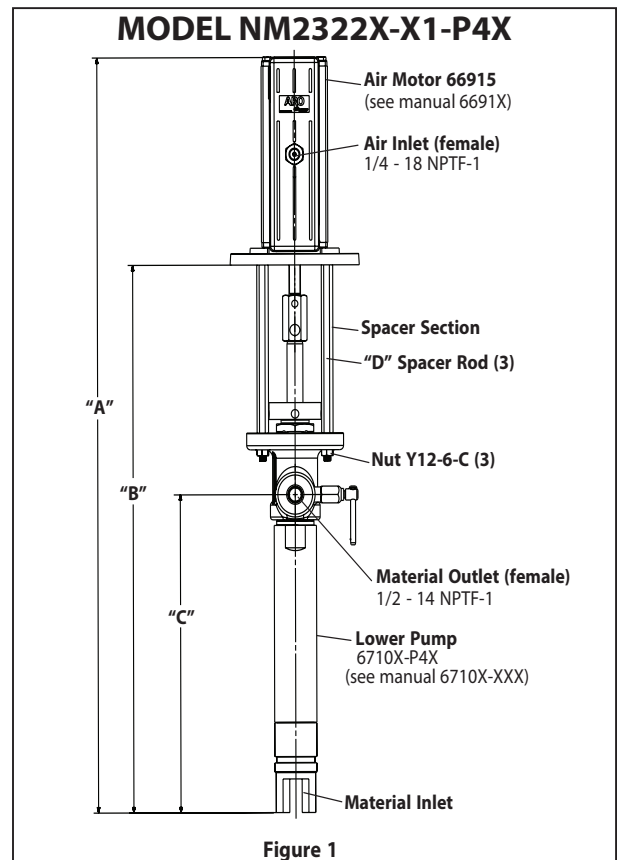

Figure 1
- Remove the three (Y12-6-C) nuts from the three "D" spacer rods (see figure 1).
- Unscrew three spacer rods (see figure 1) from the airmotor assembly.